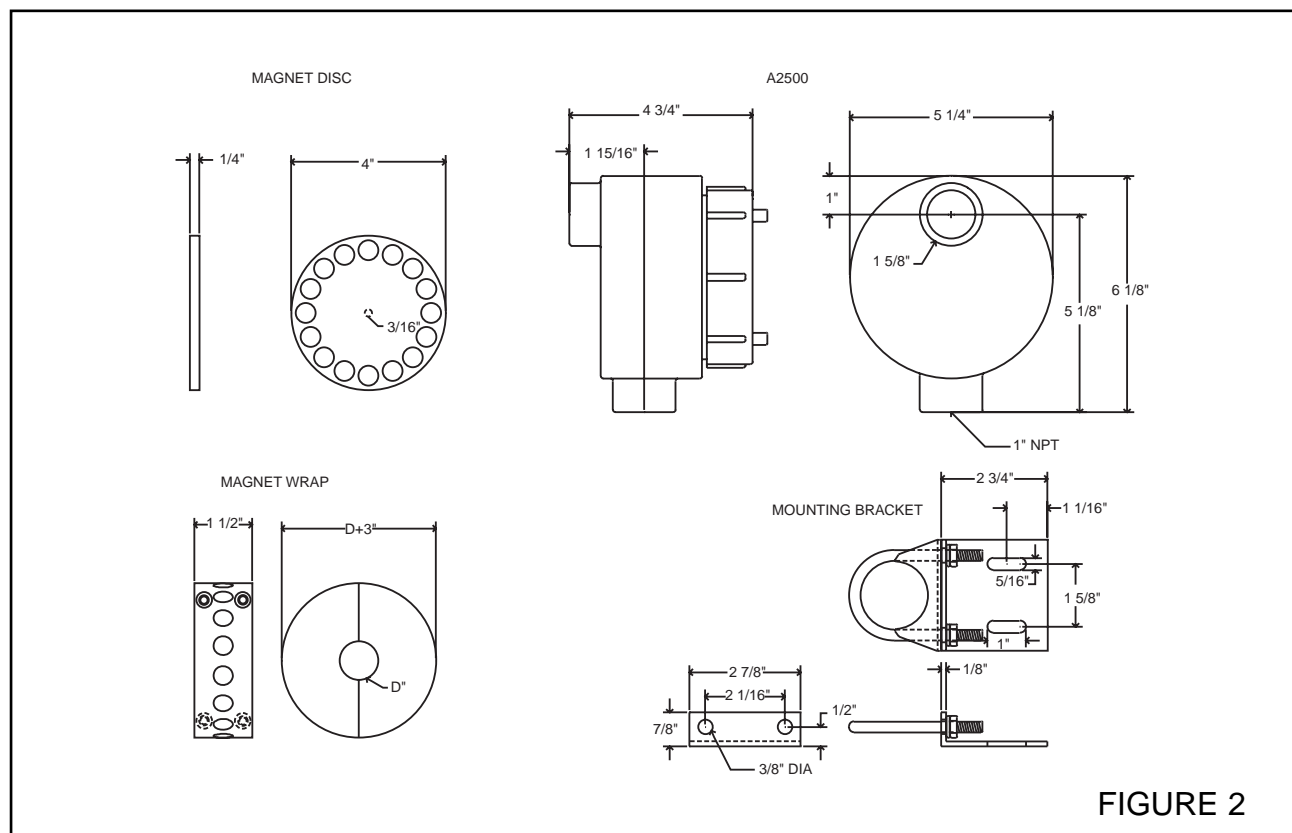

FIGURE 2
- 4.1 The A2500-1 switch housing is UL/CSA listed and certified for Class I, Div. 1 & 2, Group D, Class II Div. 1 & 2, Group E, F, & G, Class III. (see figure 2, page 4).